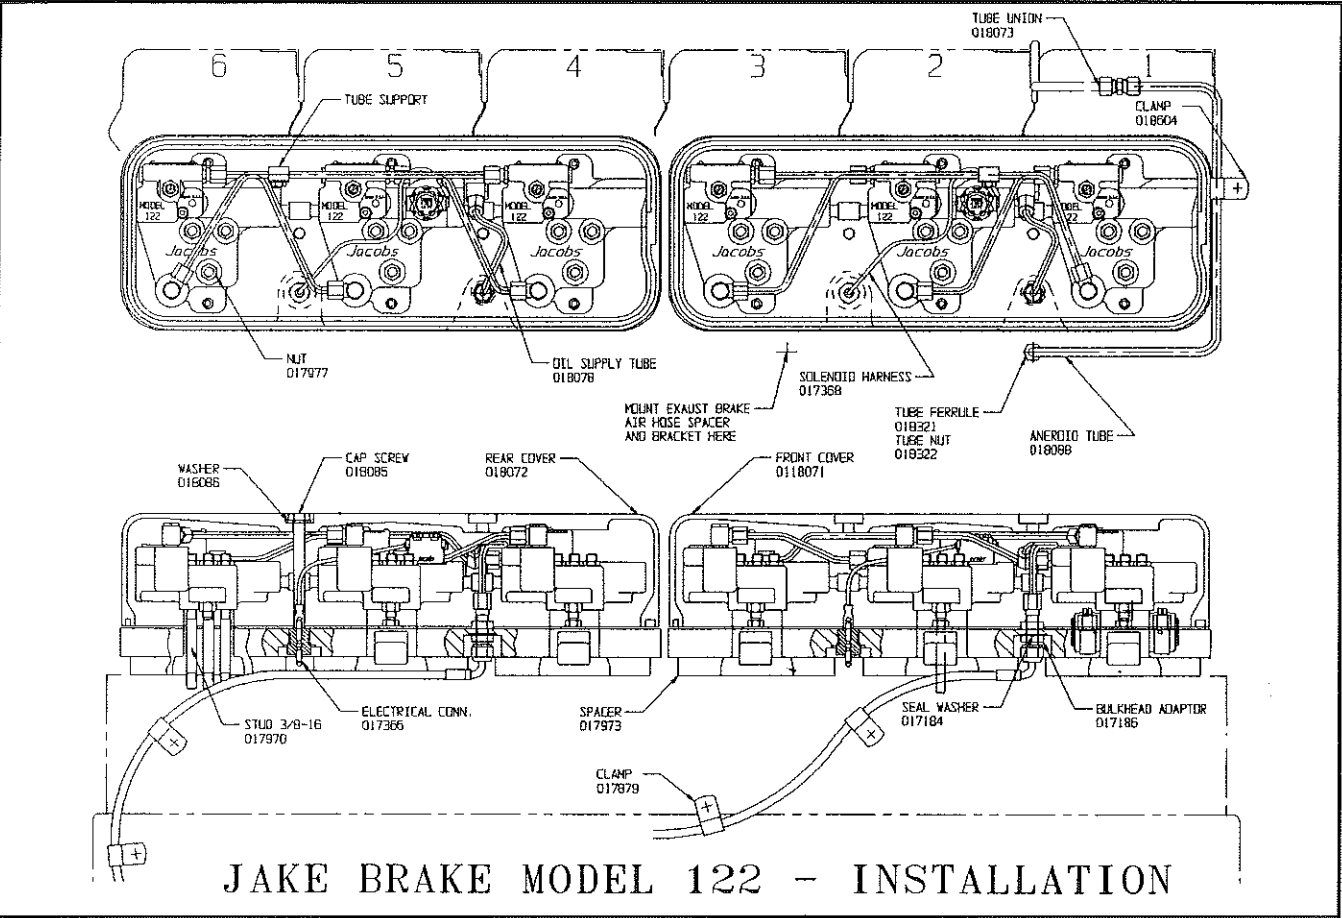

Fig. 1
2. Using a tube cutter, cut fuel pump aneroind tube at horizontal section above the cylinder heads between heads No. 1 and No. 2, leaving about 3 in. (76 mm) on the horizontal. Discard end connected to air intake manifold. Bend free end 90 degrees toward front of engine. See Fig. 1.
2. Refer to Fig. 1 and place brake assemblies over studs. Make sure that *Jake Brake* slave pistons center on the valve caps.
6. Attach inlet oil supply tube from each spacer to supply housing (Fig. 1). Tighten banjo-fitting screws into supply housings. Torque to 14 lbft. (19 N•m). Tighten tube nuts 1/6 turn past hand tight (1 hex flat). Move high pressure tubes as required to make connection.
5. Install clamps on hoses (Fig. 1) or as required.
4. Refer to Fig. 1. Install clamp on tube.